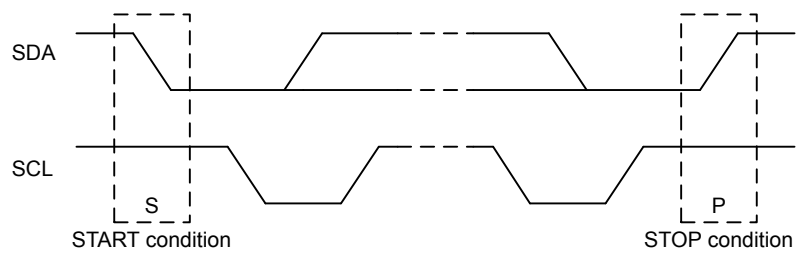

Figure 21.4. I2C START and STOP Conditions
START and STOP conditions are used to initiate and stop transactions on the I²C-bus. All transactions on the bus begin with a START condition (S) and end with a STOP condition (P). As shown in Figure 21.4 I2C START and STOP Conditions on page 737, a START condition is generated by pulling the SDA line low while SCL is high, and a STOP condition is generated by pulling the SDA line high while SCL is high.